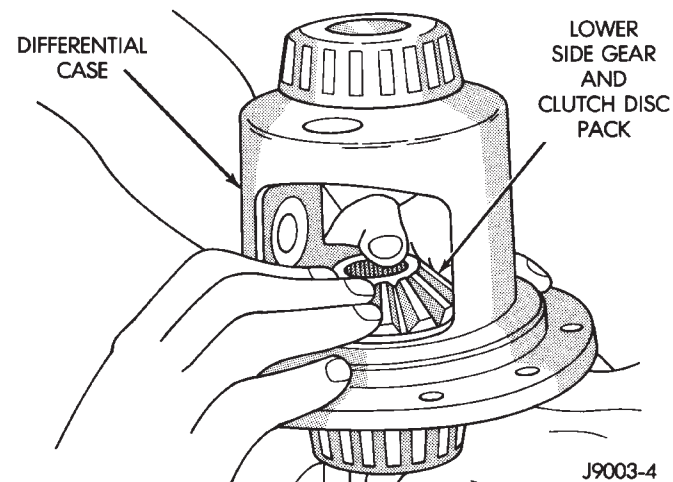

Fig. 52 Clutch Discs & Lower Side Gear Installation
(2) Position assembled clutch disc packs on the side gear hubs.
(3) Position case on axle fixture.
(4) Install clutch pack and side gear in lower bore (Fig. 52). **Be sure clutch pack retaining clips remain in position and are seated in the case pockets.**